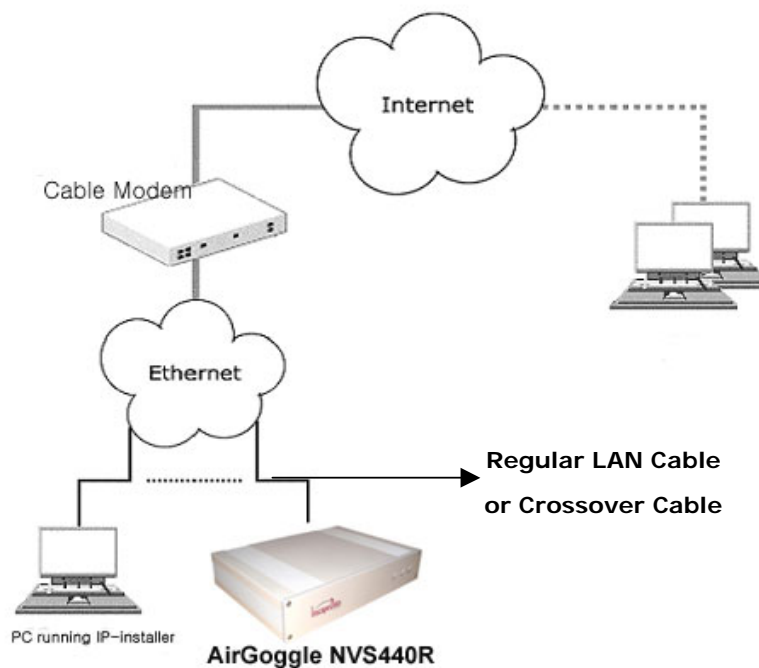

Figure 3-5 Connecting the NVS480R to a Cable Modem
3. Remove the crossover cable and connect the NVS480R to the network using a standard LAN cable as shown in Figure 3-5. Check if you can receive video data when connecting to the NVS480R using the viewer program.